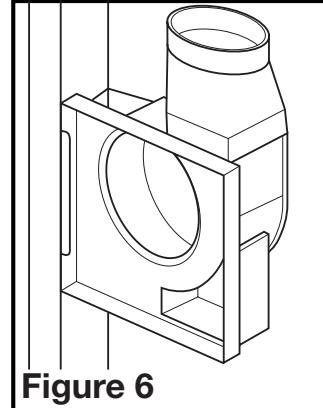

Figure 6
3. Snap the fan body into the bracket, making sure the duct collar is pointing upwards towards the ceiling (**Figure 6**).